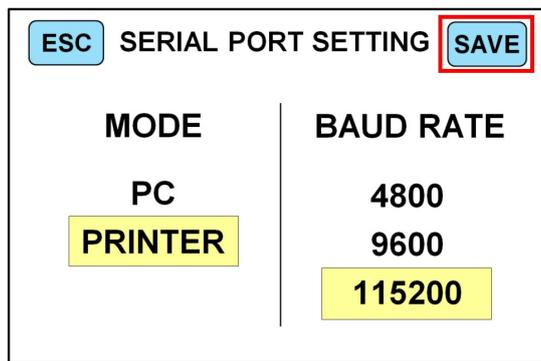

Figure 57
4) In the "SERIAL PORT MODE" interface, first touch to select “**PRINTER**” in the MODE column on the left, and then touch to select the baud rate "115200" in the BUAD RATE column on the right. After the selection is complete, click the button “**SAVE**” in the upper right corner to save, as shown in Figure 57 below.